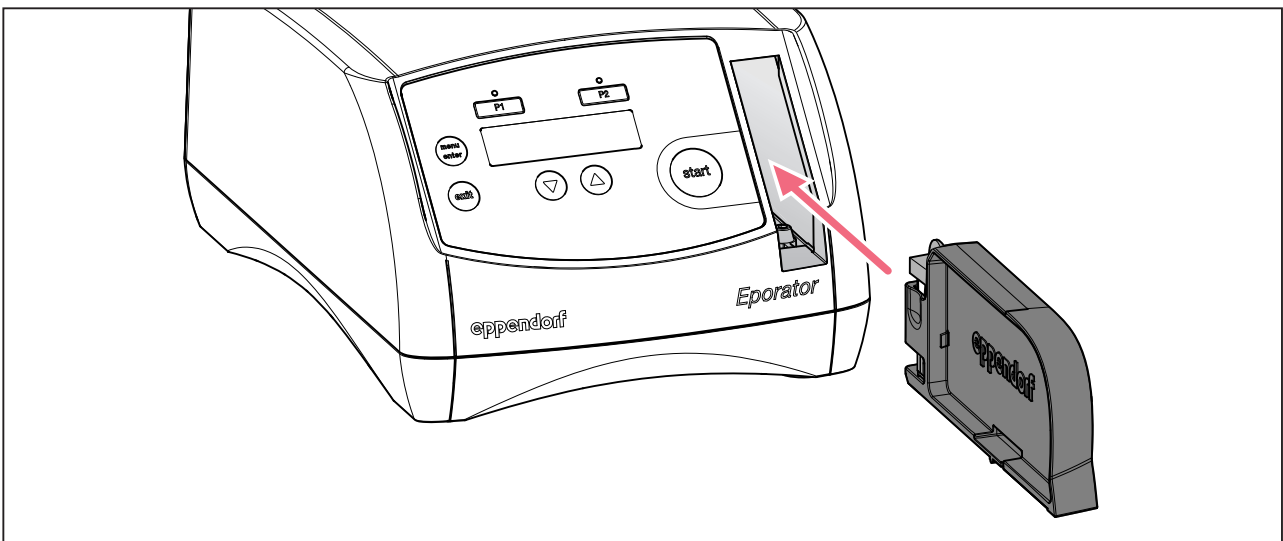

Fig. 5-4: Insert the cuvette holder
7. Slide the holder in the cuvette shaft of the Eporator until it engages (Fig. 5-4 on p. 17).